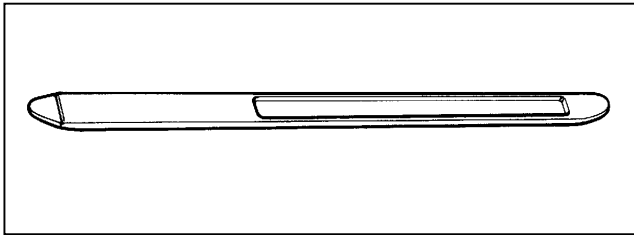

Fig.3
**#0001418 bead lifting tool (Fig.3)**